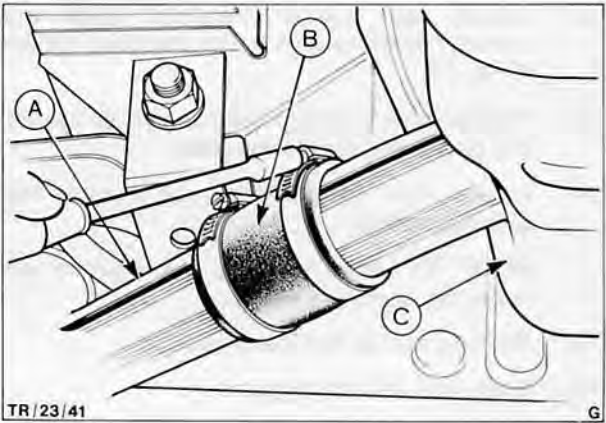

Fig. 70. A – Fuel inlet pipe
6. From under vehicle disconnect fuel inlet pipe from tank, Fig. 70.